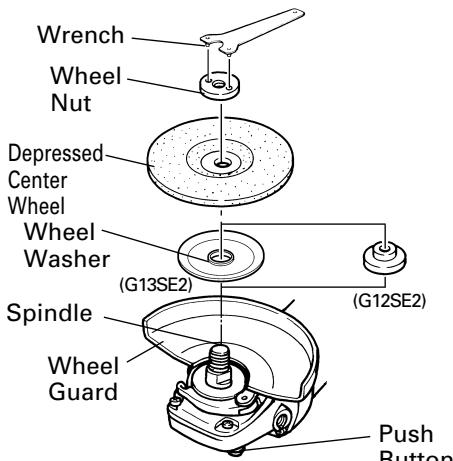

Fig. 5
Make sure that the push button is disengaged by pushing push button two or three times before turning on the grinder. (Fig. 5)
- (1) Turn the disc grinder upsidedown so that the spindle is facing upward.
- (2) Align the across flats of the wheel washer with the notched part of the spindle, then attach them.
- (3) Fit the protuberance of the depressed center wheel onto the wheel washer.
- (4) Screw the wheel nut onto the spindle.
- (5) While pushing the push button with one hand, lock the spindle by turning the depressed center wheel slowly with the other hand.
- Tighten the wheel nut by using the supplied wrench as shown in Fig. 5.